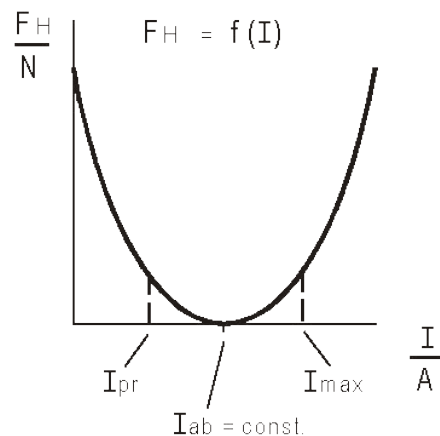

Fig. 3: characteristic
- 2) In order to eliminate the influence of the coil resistance (dependent on the temperature rise) on the residual force we recommend you to drive the solenoid with constant current (see also fig. 3).